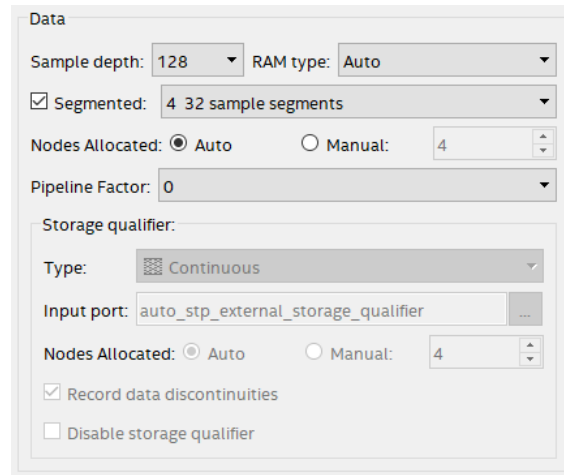

Figure 22. Select Segmented buffer acquisition mode with 4 32 sample segments.
- In the Signal Configuration pane of the SignalTap window, in the Data section of the pane check **Segmented**. In the dropdown menu beside Segmented, select **4 32 sample segments**. This will result in a pane that looks like Figure 22.